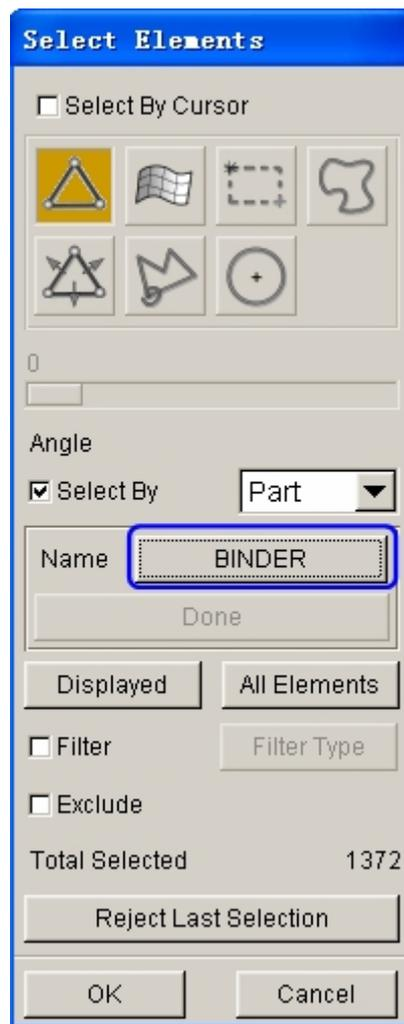

Figure 7.20 Select elements dialog box
13. Toggle on **Select By** option in the dialog box. Then, click the **Unspecified** button to select **BINDER** from the SELECT PART dialog box illustrated in Figure 7.20.